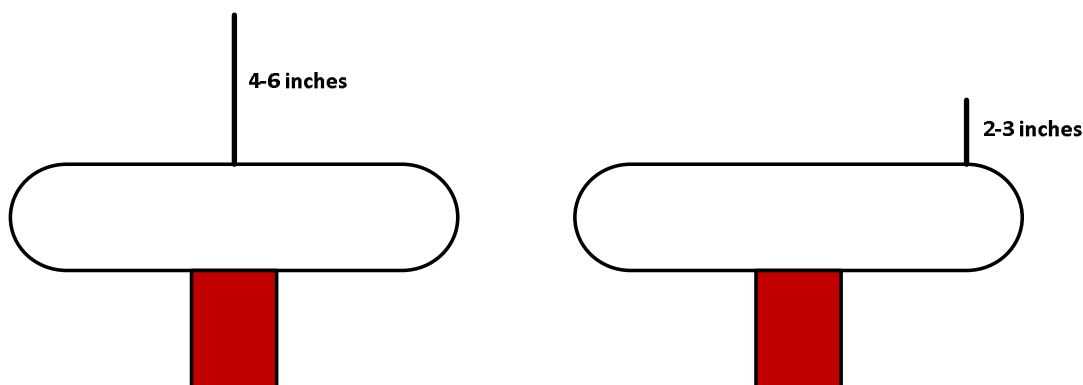

Figure 8 – Recommended break-out point configurations
- 8. Using a 2-3” length piece of copper bus wire, create a break-out point as shown in Figure 8 below. Use either masking tape or adhesive aluminum tape to secure the copper bus wire to the toroid. Do NOT use steel wire (i.e. paper clip, etc...) as a break-out point. The steel wire will heat up excessively during operation and put a blemish on the toroid. Copper bus wire was provided as part of your kit. The leftmost configuration can be made by using a stiff piece of buswire or aluminum rod (i.e 0.062” thick) and secured using the nylon nut to hold in place. The rightmost configuration can be made by using a a short piece of buswire and securing to the top of the toroid using adhesive aluminum tape.